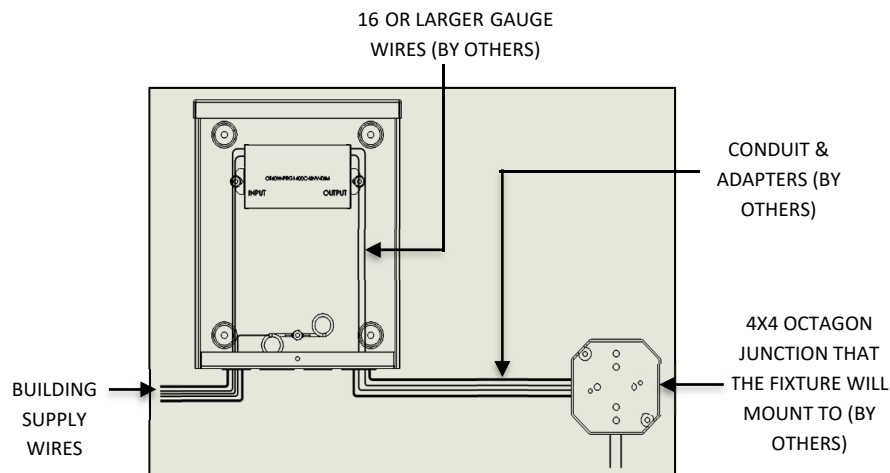

FIG. 7 – WIRE CONNECTION FROM BUILDING SUPPLY TO J-BOX
- Dimming wires as shown on the driver in FIG. 7 below.